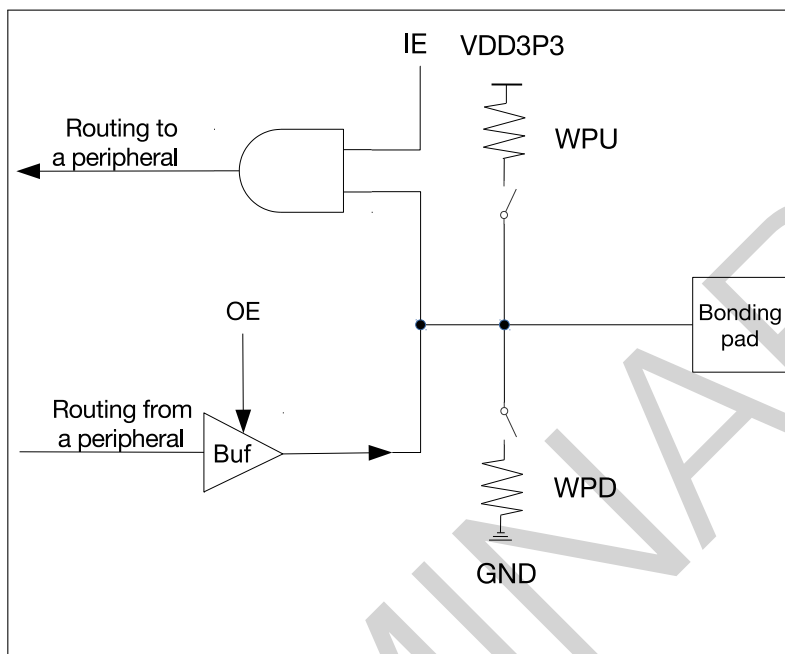

Figure 5-3. Internal Structure of a Pad
- Figure 5-3 shows the interface logic for a GPIO pin.
Figure 5-3 shows the internal structure of a pad, which is an electrical interface between the chip logic and the GPIO pin. The structure is applicable to all 22 GPIO pins and can be controlled using IE, OE, WPU, and WPD signals.